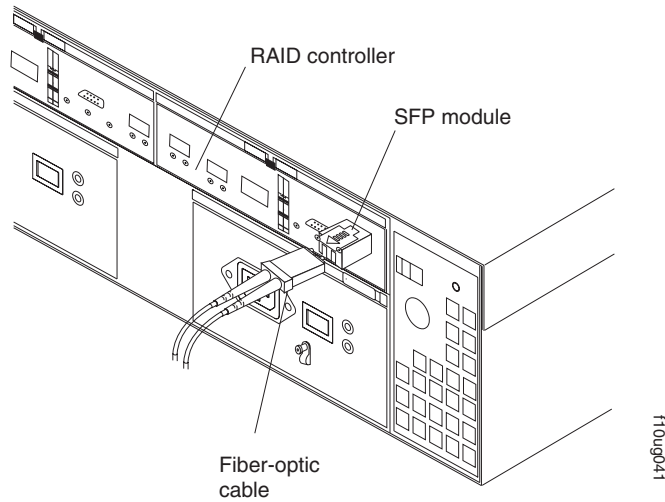

Figure 38. Connecting cables to the installed SFP
2. Connect the fiber-optic cable to the installed SFP, as shown in Figure 38 on page 52.